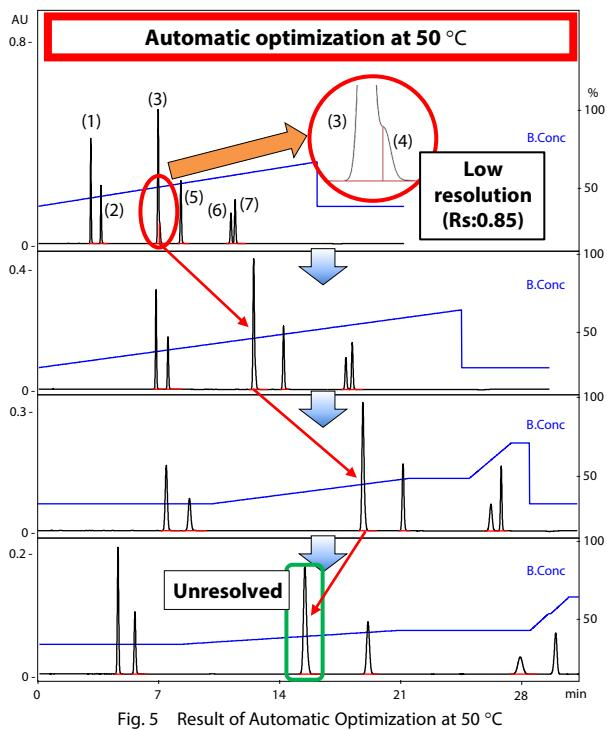
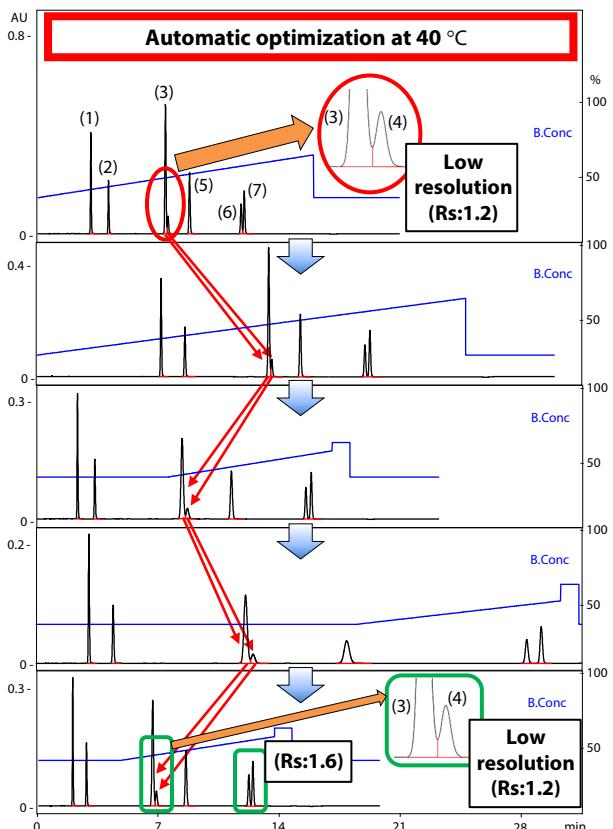

Fig. 5 Result of Automatic Optimization at 50 °C
Fig. 4 Result of Automatic Optimization at 40 °C
The results of automatic optimizations of gradient conditions at different column oven temperatures are shown in Fig. 3~5, respectively. Considering the minimal resolution of 1.5, peaks (6) and (7) were not well separated in the initial analysis when the column oven temperature was 30 °C (red circle in Fig. 3). Similarly, peaks (3) and (4) were not well separated at column oven temperatures of 40 °C and 50 °C (red circles in Fig. 4 and Fig. 5). Following the initial analysis, the gradient conditions that met the resolution criteria were automatically explored using "improvement of gradient conditions by AI" and "analysis under improved conditions". At 30 °C, the optimized gradient conditions successfully met the resolution criteria (green box in Fig. 3). However, at 40 °C and 50 °C, even with automatic optimization, peaks (3) and (4) failed to meet the resolution criteria. These results indicate that the optimal column oven temperature is 30 °C, as it achieves the minimal resolution of 1.5 for all peaks. As demonstrated, the automatic optimization of gradient conditions can be applied consecutively to multiple column oven temperatures, enabling users to identify suitable conditions that meet the criteria, regardless of their experience in chromatography.